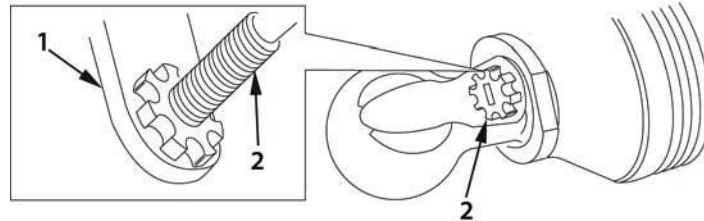

Figure 1. Removal of Firing Pin.
1. Position firing pin wrench (Figure 1, Item 1) on firing pin (Figure 1, Item 2). Unscrew and remove firing pin.